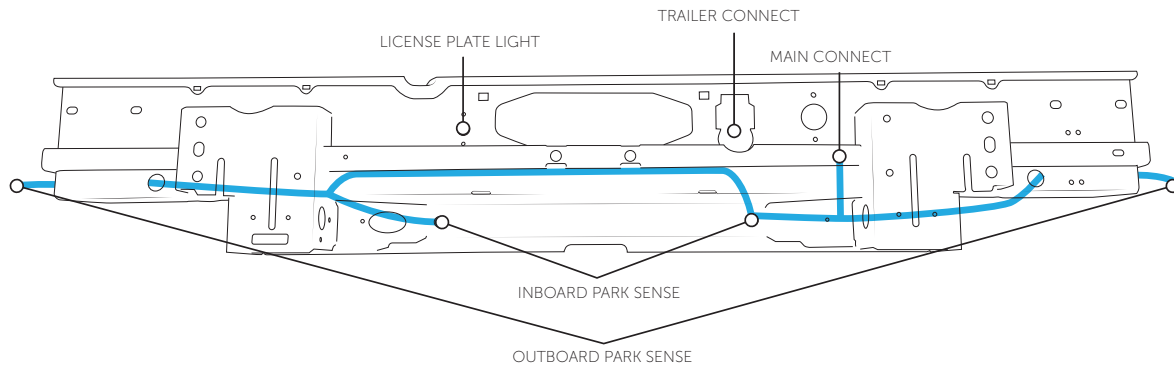

Figure 17
3. Lay the harness into position on AEV Center Section placing connectors in locations shown (figure 17).